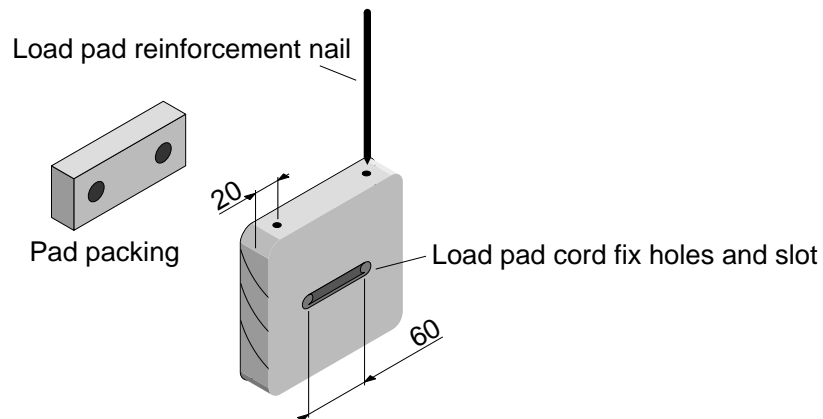

Figure 9: load pad reinforcement by nails across grain
- 6) Cut the wooden load pads and round off all the edges so that there are no sharp corners to stick into the donkey. Hammer two 100 mm or 120 mm long nails into the edges of each load pad so the nails run across the grain as shown in Figure 9. This should prevent the pads splitting across the grain. Drill two holes through each of the pads in the positions shown in Figure 9 for the pad-to-frame fixing cord or rope. Cut a slot between the holes to accommodate the cord using a chisel or screwdriver.